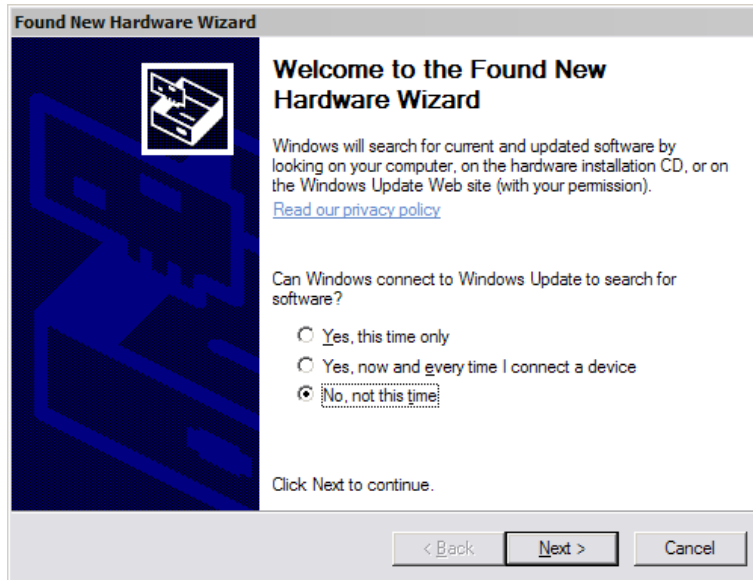
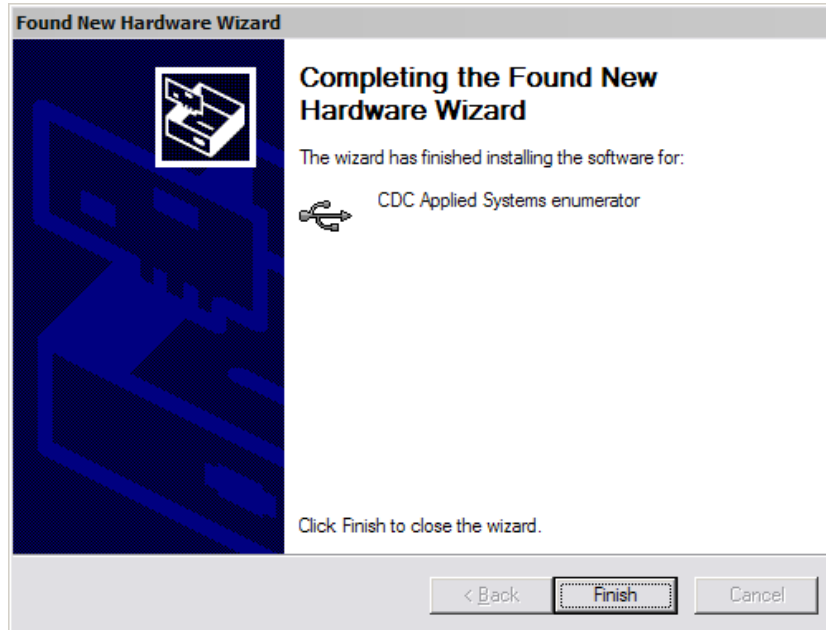

Figure 2
Figure 6
- Select “Finish” to proceed with the next phase. The same sequence of steps as illustrated in Figure 2 through Figure 6 will be repeated to install the “enumerator” for the second BCOM-USB port.
- When the “enumerator” for the second BCOM-USB port has completed, the same screen as shown in Figure 6 will be displayed.